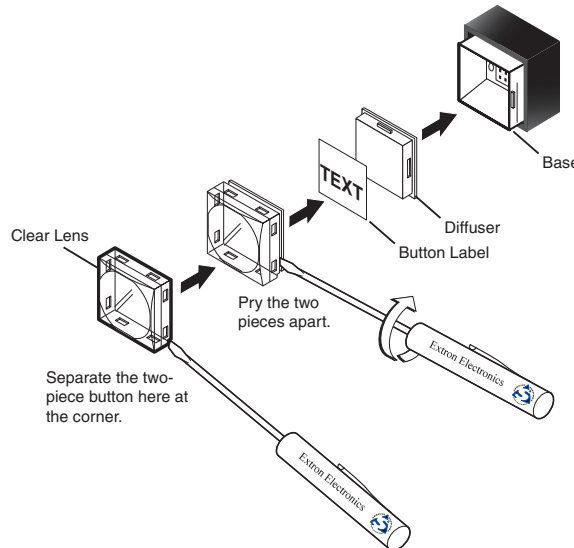

Figure 49. Illuminated Button Label Replacement
- Remove the button from the matrix switcher; use a small, flat bladed screwdriver such as an Extron Tweaker to gently pry a button out from the front panel (see figure 49).